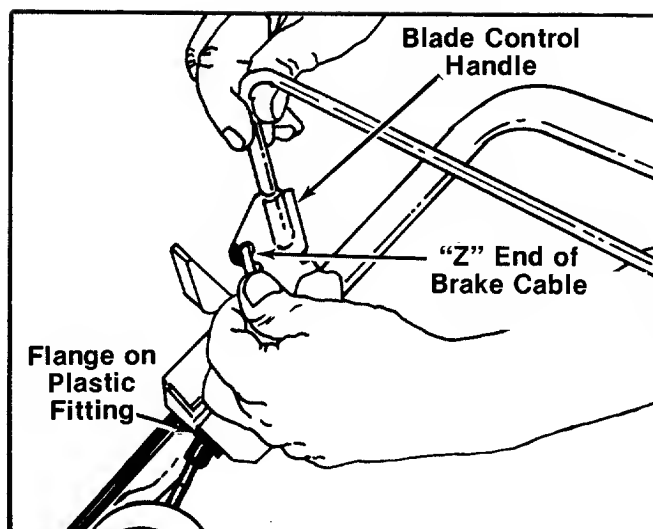

FIGURE 6.
10. Hook the "Z" end of the brake cable into the hole in the blade control handle. See figure 6. If additional slack is needed in order to hook the cable into the handle, proceed as follows.